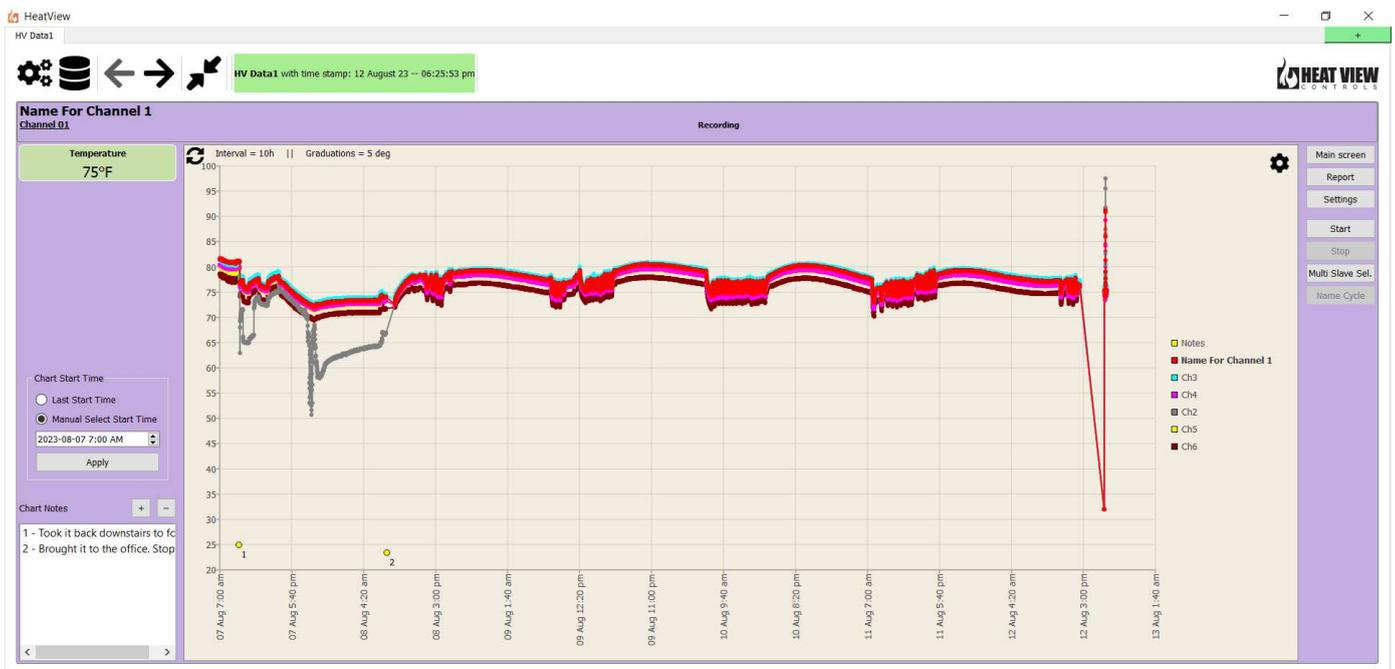

Figure 19: Data Window - Chart View
- ‘Chart’ view:** Figure 19 below is a visual example of what the Chart View looks like when the system is running. Changing the Data Window over to the Chart View allows an operator to see highly detailed visual process information about the current cycle.